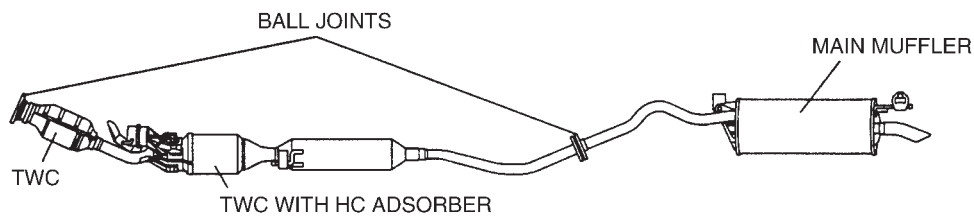

Figure 9-48 A typical exhaust system with three-way catalytic converters, a hydrocarbon adsorber, and a main muffler. (Courtesy Toyota Canada Inc.)
- May contain an adsorber to store hydrocarbons or oxides of nitrogen. See Figure 9-48.